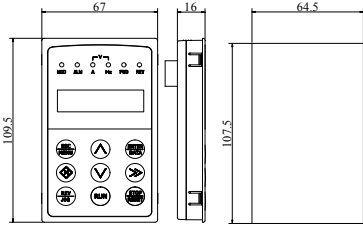

Fig.2-5 Mounting size of keypad
Fig.2-5 outer dimension
- (1) EN-LCD2 long-distance keypad outer lead, do not support keypad holder installed, only keypad installed support, mounting size refer to Fig.2-5.
- (2) Except EN-LCD2 long-distance keypad, when other keypad outer lead, user can adjust the hole size under actual situation on keypad or keypad holder; thickness of install board between 1.0~1.5mm is suggested.
- (3) When installed with keypad holder, it need to buy extra.